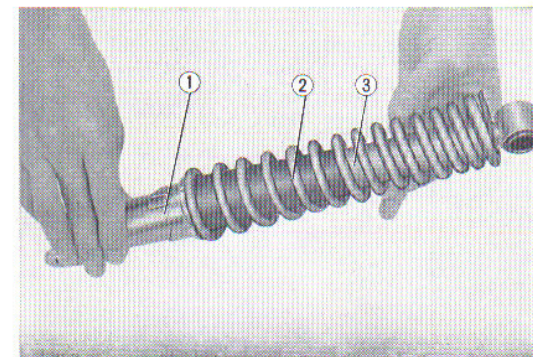

Fig. 4.70 Assembling the rear cushion
① Rear damper assy
② Spring guide
③ Rear cushion spring
④ Rear cushion upper case
⑤ Rear cushion spring seat stopper
1. Assemble the under seat, spring and upper case to the damper. Compress the assembly using a special tool and lock the assembly with the cushion spring seat. (Fig. 4.70)